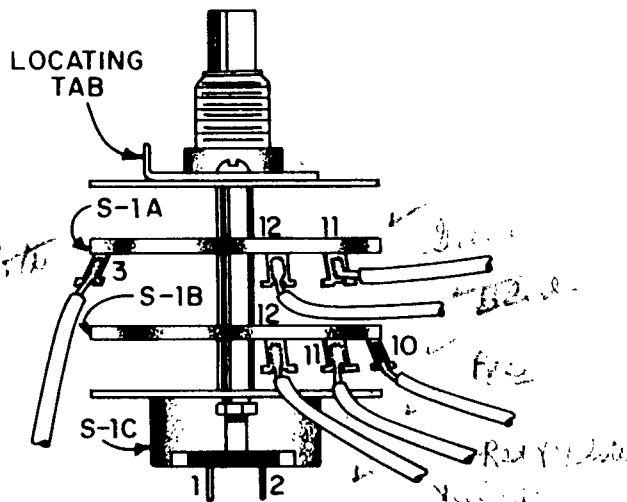

FIGURE 9. PREWIRING S-1
SEE FIGURE 9.
- S-1, 3-wafer switch. Position the switch with the terminals and locating tab as shown in Figure 9.